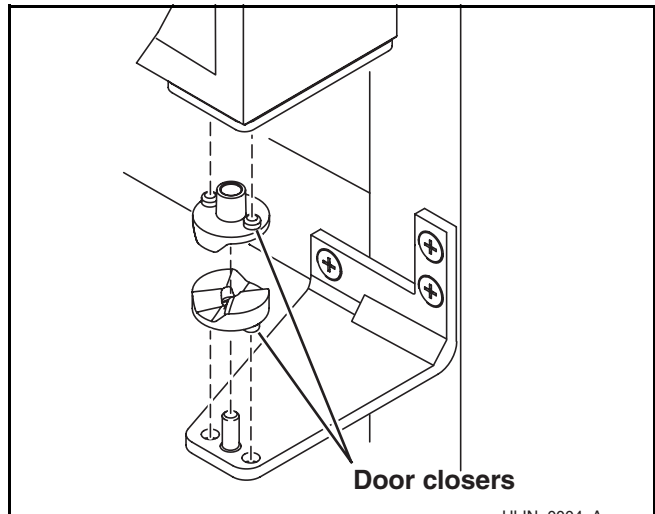

Figure 19
- 16. Position door over closer. Be sure the door hinge plate holes align with the bosses on the closer (Figure 19). Failure to do so will result in the door not sitting in the proper position and door will not align correctly. (Sometimes it is helpful to open the door 180° to have the closer and pivot plate align correctly.)